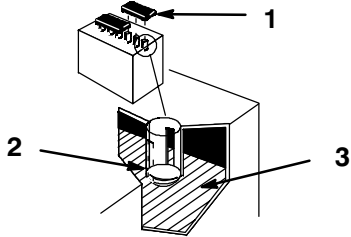

Figure 69
1. Open covers to see into the cells. The electrolyte must be up to the lower part of the tube (Fig. 69). Do not allow the electrolyte to get below the plates (Fig. 69).
2. Lift off the filler caps (Fig. 69).
3. Slowly pour distilled water into each battery cell until the level is up to the lower part of the tube (Fig. 69).